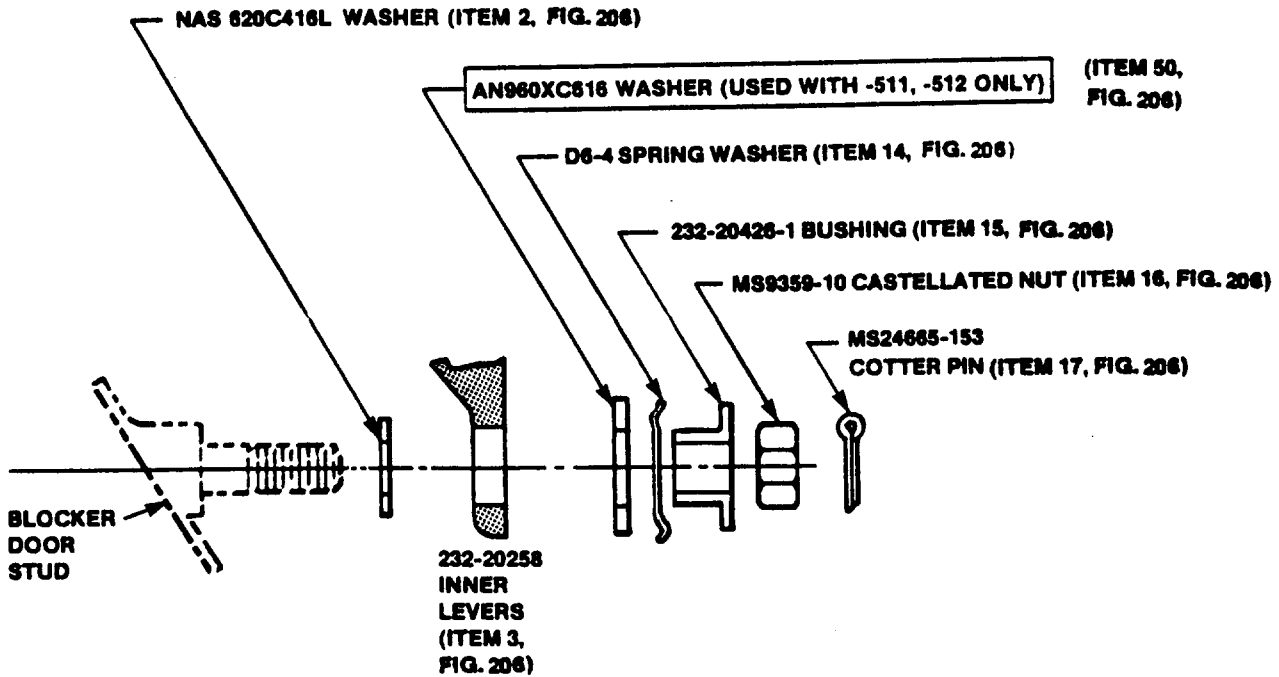

Figure 214 - Inner Lever Installation Hardware
- (3) Remove the cotter pins (17), the castle nuts (16), the bushings (15), spring washers (14), and washer (51).
- (4) Work the inner lever arms off the blocker door stud (1) and remove the door. Remove washer (2).
- (5) Refer to Figure 206 for relative parts location when installing inner levers on blocker doors. Refer to Figure 214 for correct parts stack-up per SB-F20-78-30-010B. All four inner levers must be installed in the same manner.
- (6) Install washer (2) over blocker door studs. Work the blocker door in place so that the blocker door studs (1) protrude through the lever holes.
- (7) Install washer (51) spring washer (14) and bushing (15) over blocker door stud. Secure inner levers to blocker door stud with castellated nut (16). Torque nut to 20 inch-pounds. Install cotter pin (17). If necessary, back off nut just enough to insert cotter pin.
- (8) Reconnect the tension links to the blocker door clevis fitting (49) with the bolts (32), washers (48), nuts (47) and D6-1 spring washers (if applicable) removed earlier.